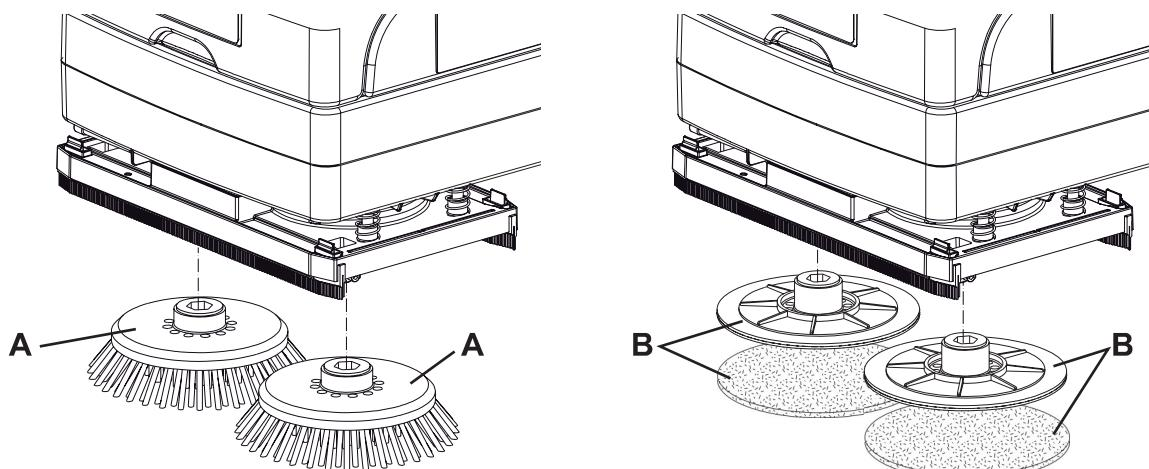

Figure 1
i *The machine is supplied with two brushes (A, Fig. 1) installed. According to the type of floor to be cleaned, it is possible to replace the brushes (A) with the pad-holders with pads (B).*
1. Lift the machine by prying the handlebar (2).
2. Install the brushes (A, Fig. 1), or the pad-holders with pads (B), in the 2 hubs of the deck (9).
3. Lower the machine by using the handlebar (2).